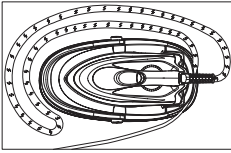
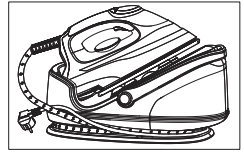

FIG. 11
FIG. 14
Step 2 - Place iron on the base unit. Fold the supply hose and wind it clockwise around the cord slot of the base unit. Tie the power cord and folded supply hose together. Then wind the power cord clockwise around the cord slot of the base unit. Lock the plug with the supply hose. (Fig. 11- Fig. 14)